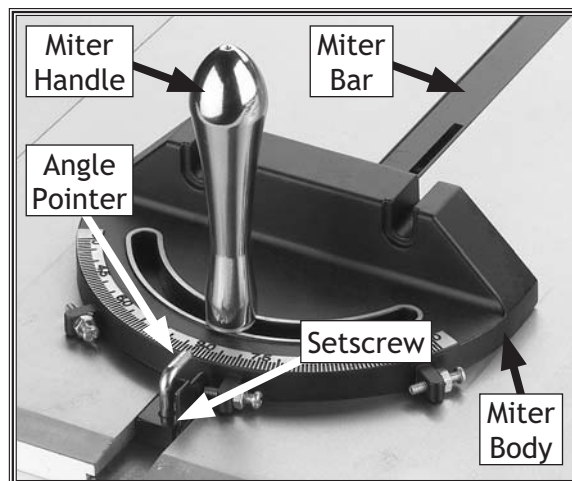

Figure 43. The miter gauge.
The miter gauge (**Figure 43**) allows you to support the workpiece at an angle while crosscutting. In order to be accurate, the miter gauge pointer needs to be adjusted before use.
1. Loosen the miter handle shown in **Figure 43**, so the miter gauge rotates back and forth.